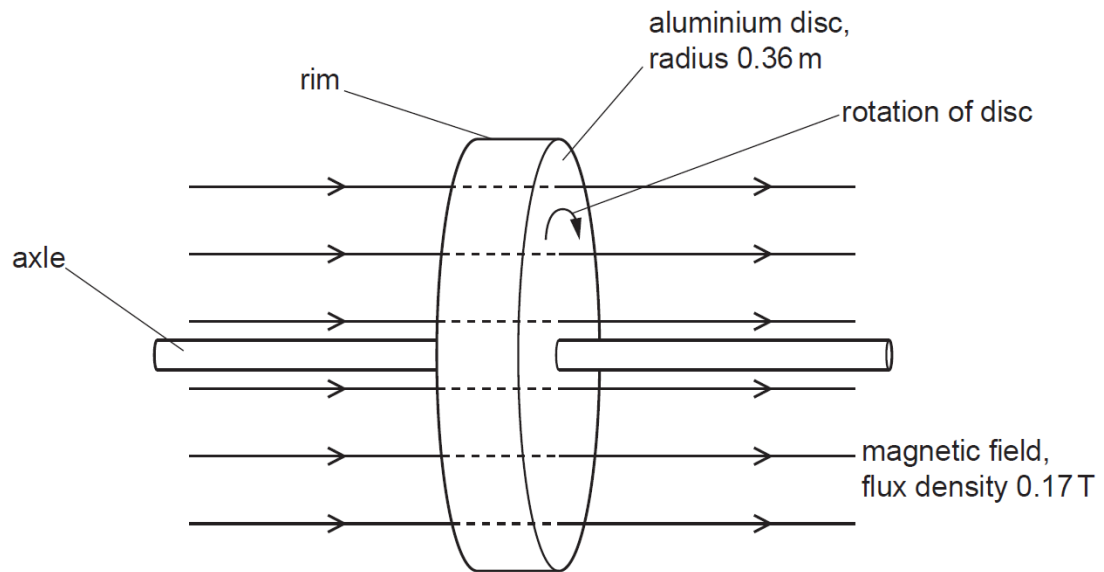

Fig. 4.1
In order to activate the braking system, a uniform magnetic field of flux density 0.17 T is switched on. This magnetic field is perpendicular to the plane of rotation of the disc, as shown in Fig. 4.1.
- (iii) The axle and the rim are connected to an external circuit that enables the energy of the rotation of the disc to be stored for future use. The direction of rotation is shown in Fig. 4.1.